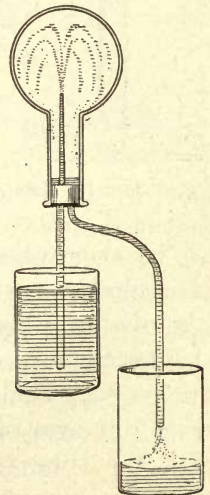

FIG. 81.—Another Form of Siphon.
**Experiment 18.** — Fit a flask with a two-hole rubber stopper and arrange glass tubing as shown in Figure 81. The shorter tube should terminate in a much smaller bore inside the flask, while the longer tube should just reach the stopper. A little water must be placed in the flask to start the siphon. How does this differ from the siphon in the previous experiment? What determines the force of water in the jet?